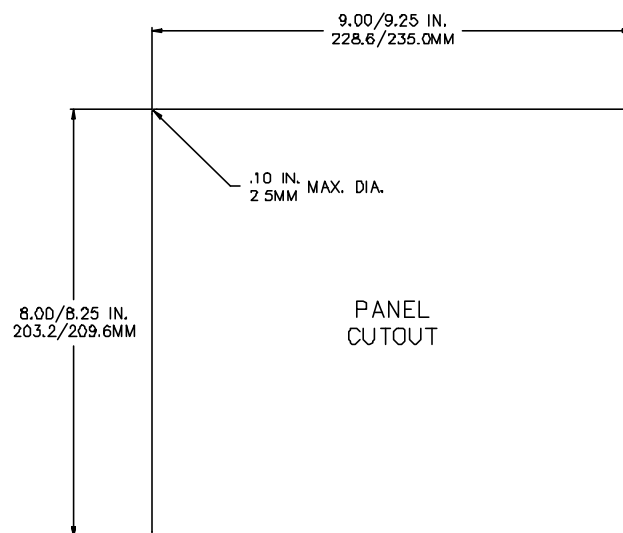

Figure 2-7: 560 and 562 Panel Mount Cut-Out
1. Make a cut out in the panel using the dimensions shown in Figure 2-7.